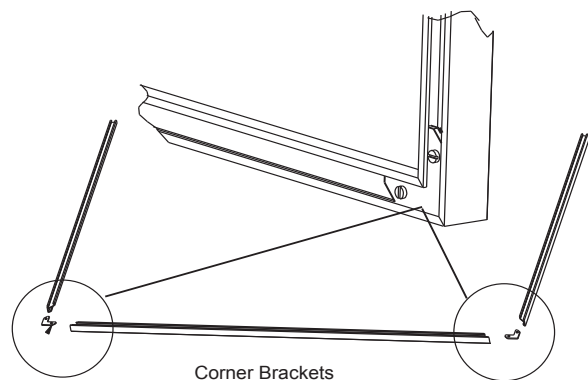

Figure 20.3
2. Using a 4 to 6 inches long Phillips head screw driver attach the side surrounds to the top surround using (2) #8 sheet metal screws on each side provided with the kit (**Figure 20.3**).
4. Using a standard flat screw driver tighten the corner brackets (**Figure 20.3**).
5. Slide the assembled trim set over the surround set. and then over the appliance matching the mounting tabs on the side pieces with the slots on the appliance (**Figure 20.3**).